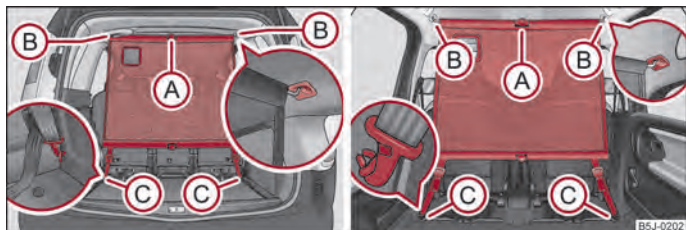

Fig. 48 Use of the static separation net behind the rear seats/behind the front seats
- Insert the cross rod into the mount (B) first on the one side and push the cross rod forward. In the same way, fix the cross rod to the other side of the vehicle, mount (B) ⇒ fig. 48.
- Hang the carabiners (C) at the ends of the strap into the lashing eyes behind the rear seats.
- Slacken the bands on both sides and take off the carabiners (C) ⇒ fig. 48.
- Take the cross rod out of the mounts (B).
Installing and removing the static separation net behind the front seats ⇒ fig. 48 on the right is carried out analogously as behind the rear seats. Use the eyes behind the front seats to attach the carabiners. Remove the rear seats to enlarge the luggage compartment.